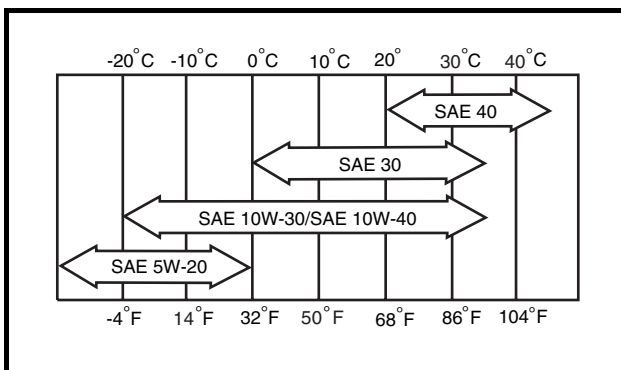

Figure 19 Oil Viscosity Chart
13. Remove the dipstick and add engine oil into the dipstick port. Use a funnel or pour spout to direct the oil into the dipstick port. With filter change, the engine requires 38 ounces (1.12 liters) of oil per change. Refer to oil viscosity guidelines for selection of oil grade (**Figure 19**). Replace the dipstick.
Choose the viscosity according to the temperature as indicated by the oil viscosity chart (**Figure 19**). **See following NOTE.**